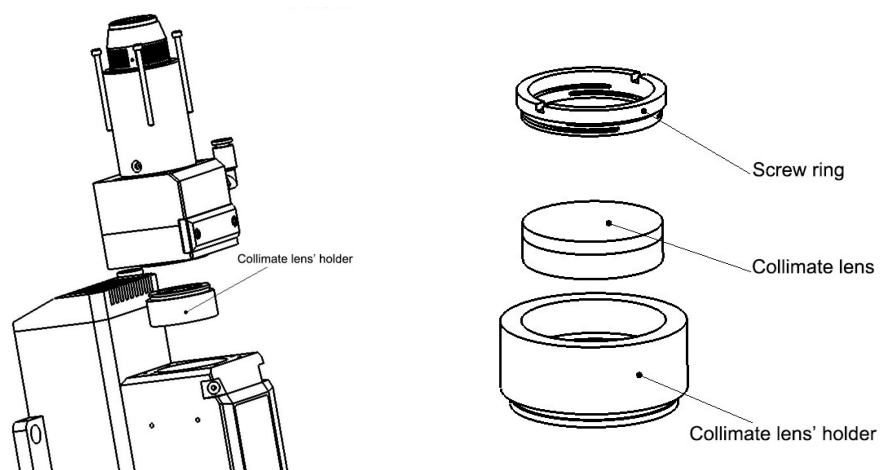

Figure 15. Collimate lens with lens' holder.
- (1) Disassembly the cutting head and clean up all the dust on the surface of the head in a clean place;
- (2) Loosen all the screws of the collimate lens unit showed in figure 15 by hexagonal screw driver in 3mm, and kindly suggest you use masking tape to cover the part connecting with collimate lens for preventing dust coming inside;
- (3) Take out of the collimate lens with lens' holder by optics resemble tools and then take out of the screw ring and collimate lens by the same tool;
- (4) Clean or change the collimate lens;